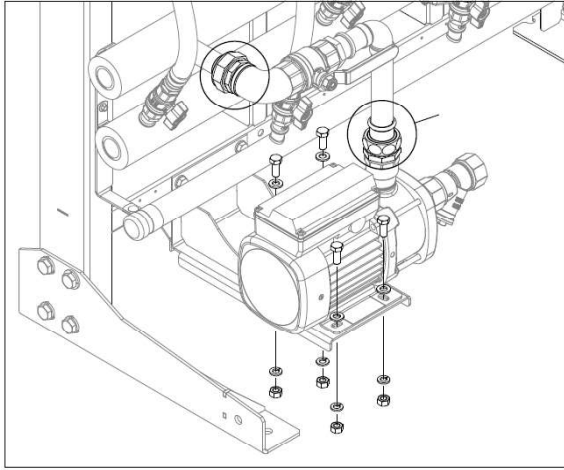
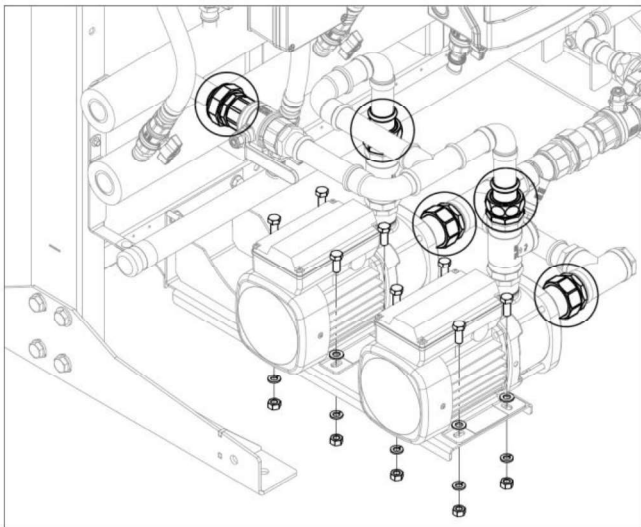

Figure 8a
Figure 8b
7. Disconnect the pump unions from the cold manifold at the points shown in **Figure 8a** and **Figure 8b** and unbolt the water and gas manifolds from the frame clip head brackets (Note relative positions for reassembly).
9. If required, remove the pump by first removing the wiring from the pump and unscrewing 4 x bolts holding it to the bracket. A restricted electrical licence (minimum) will be required if the pump is to be disconnected from the frame and later re-assembled. Refer to **Figure 8a** and **8b**.